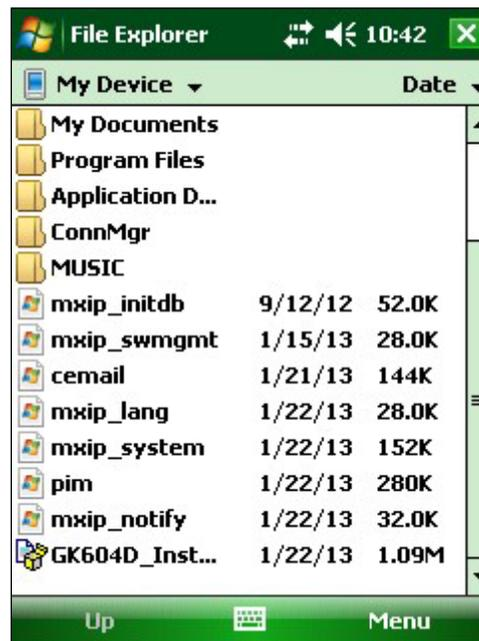

Figure 24 - GK-604D Installer at root of HDD
- 4) Copy the file, “GK604D_Installer.CAB” from the installation folder to the HDD system root folder. From the HDD, navigate to the system root folder using File Explorer (Figure 24) and tap the file, “GK604D_Installer” to execute the installer.